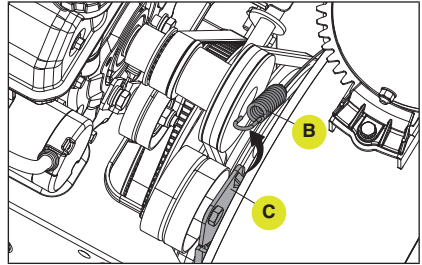

Figure 61
- Unhook the spring (B) from the auger plate (C). (Fig. 61)